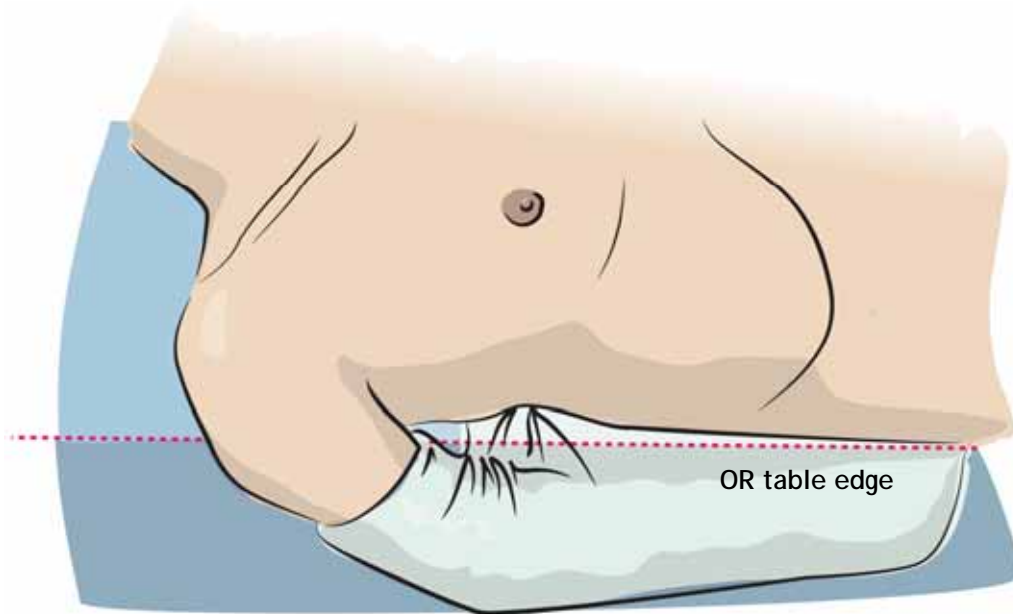

Figure 2: Patient positioned on right edge of OR table
- Anesthesia set up [Figure 2]:
- Right internal jugular (IJ) catheter to be prepped into field for 17Fr Biomedicus cannula for venous drainage:
- **Patient Positioning [Figure 2, 3 & 4]:**
- Position patient at right edge of table allowing patients right arm to drop alongside the operating table rail in order to maximally expose the right chest/axilla [Figure 2]